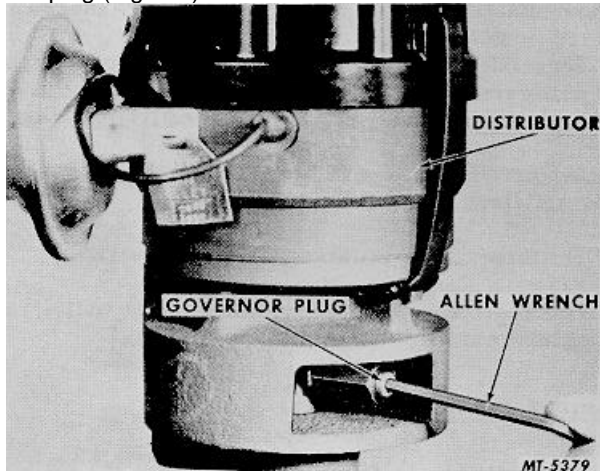

Fig. 28 Removing Governor Valve Adjusting Plug
- c. Using Allen wrench, remove governor valve adjusting plug (Fig. 28).